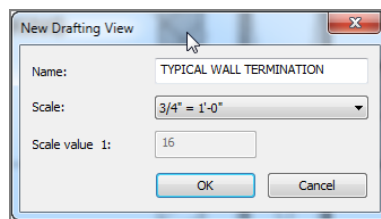

FIGURE 12.55: Changing the view name and scale
3. Change the scale to $3/4" = 1'-0"$ (1:20 for the metric users). (See Figure 12.55.)